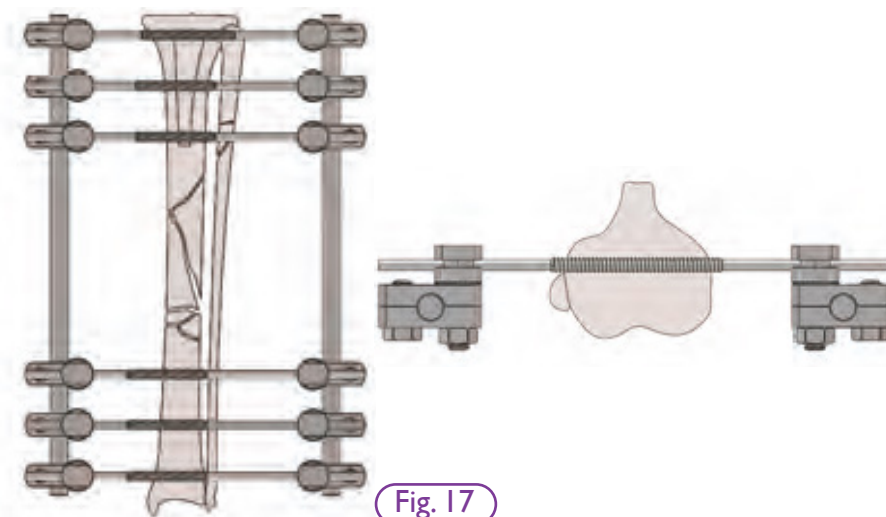

Fig. 17
**Type II (type IIA): Bilateral, Uniplanar with only full pins. (Fig. 17).**